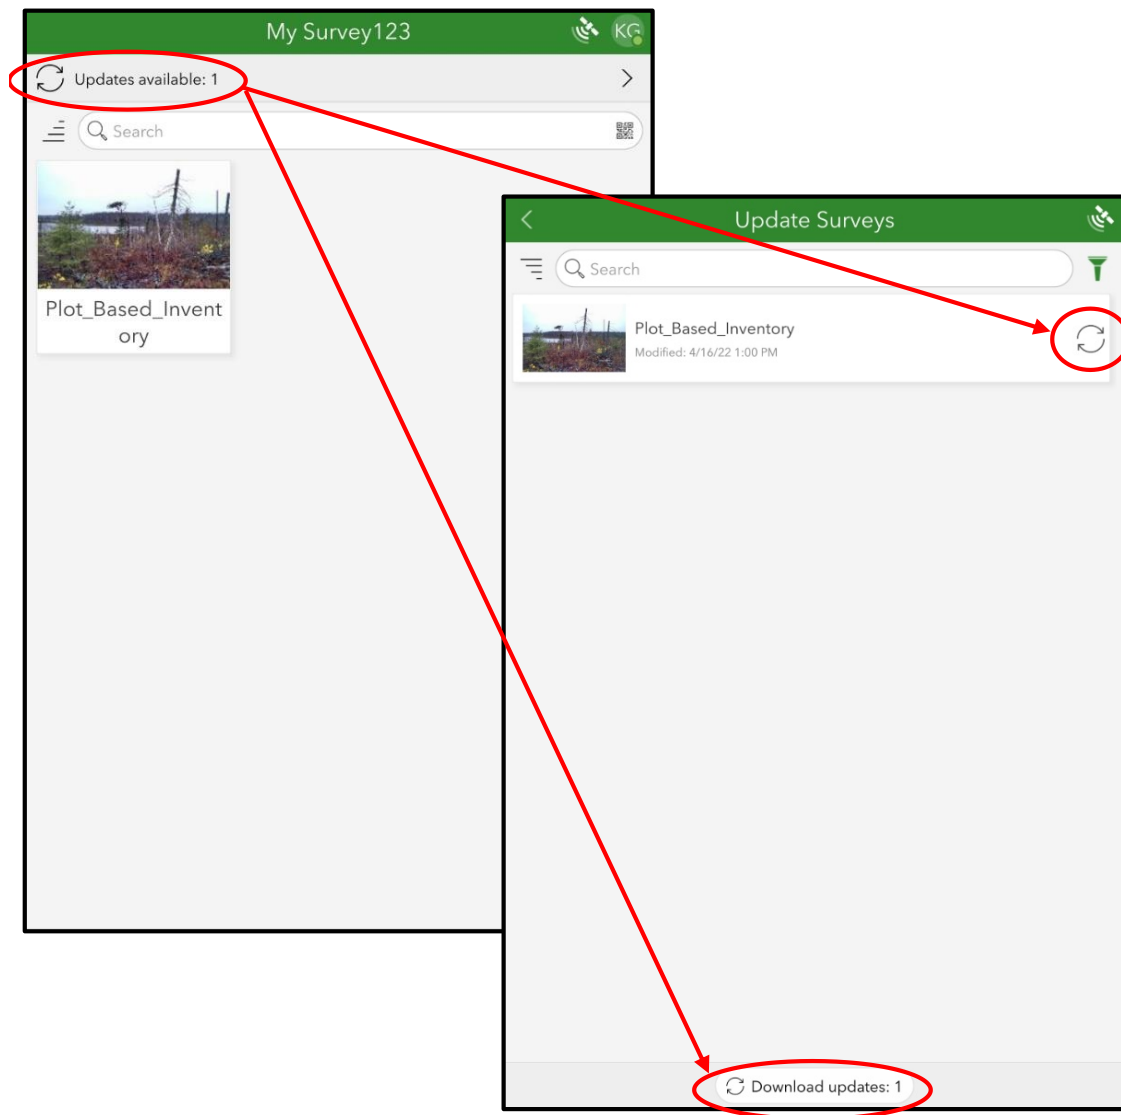

Figure 50. Figure showing workflow for updating Plot Based Inventory Survey123 form when prompted with red lines and circles showing the workflow
3. You can also watch for prompts on your Survey Screen for updates. When you open the application and are connected to Wi-Fi, you will see a banner along the top of the screen that states that Updates are Available (Figure 50)